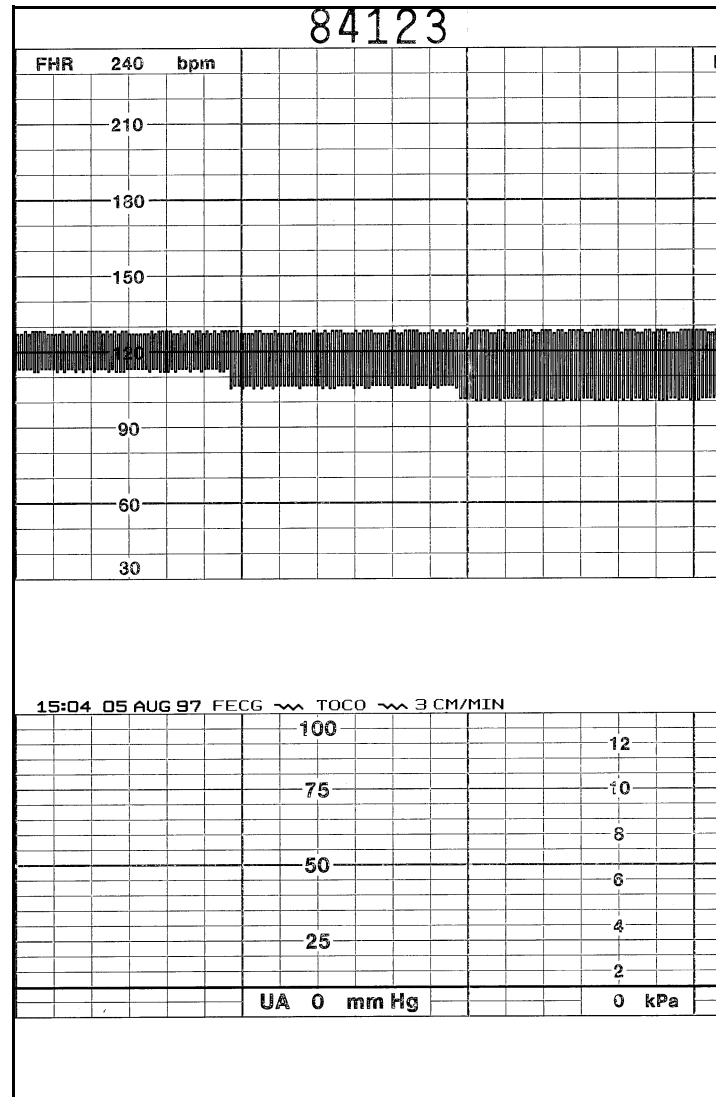

Figure 6-2. FECG Artifact Elimination
- ◆ The FHR trend oscillates 15 BPM between 115 and 130 BPM on the top grid of the strip chart paper. (See Figure 6-2.)
11. Repeat step 10 for rate values of $\Delta 22$ and $\Delta 27$. The results should be the same except that the FHR1 value oscillates by either 22 or 27 BPM and the FHR trend is an oscillation of 22 or 27 BPM. The top value is always at approximately 130 BPM. (Refer to Figure 6-2.)
- ◆ The recorder prints an oscillation of 15 BPM between 115 and 130 BPM on the top grid of the strip chart paper. (Figure 6-2. shows the strip chart paper results.)